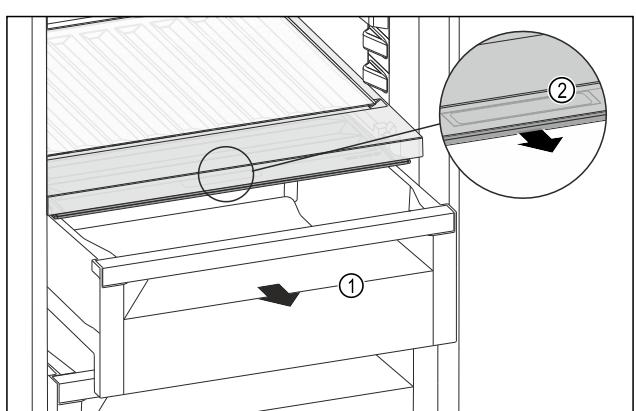

Fig. 97
- ▶ Pull out the drawer Fig. 97 (1).
- ▶ Grasp the recessed grip Fig. 97 (2) on the compartment lid and pull the compartment lid forwards at the same time.